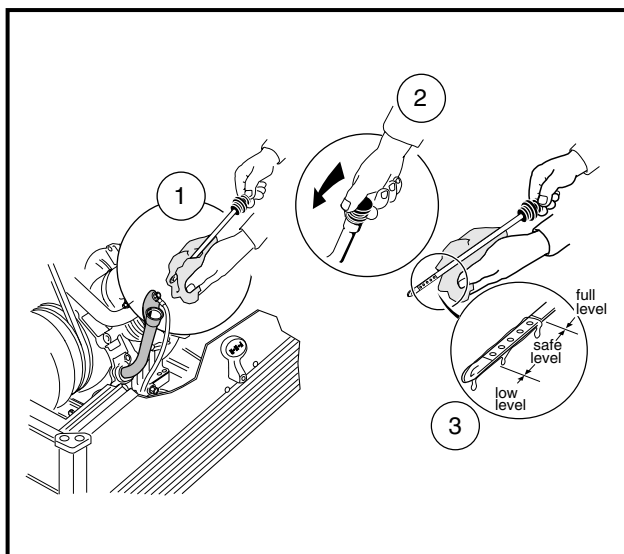

Figure 16 Engine Oil Level
1. Remove the oil level dipstick from the oil filler tube and wipe oil from stick (**Figure 16, Page 27**). See following **CAUTION**.